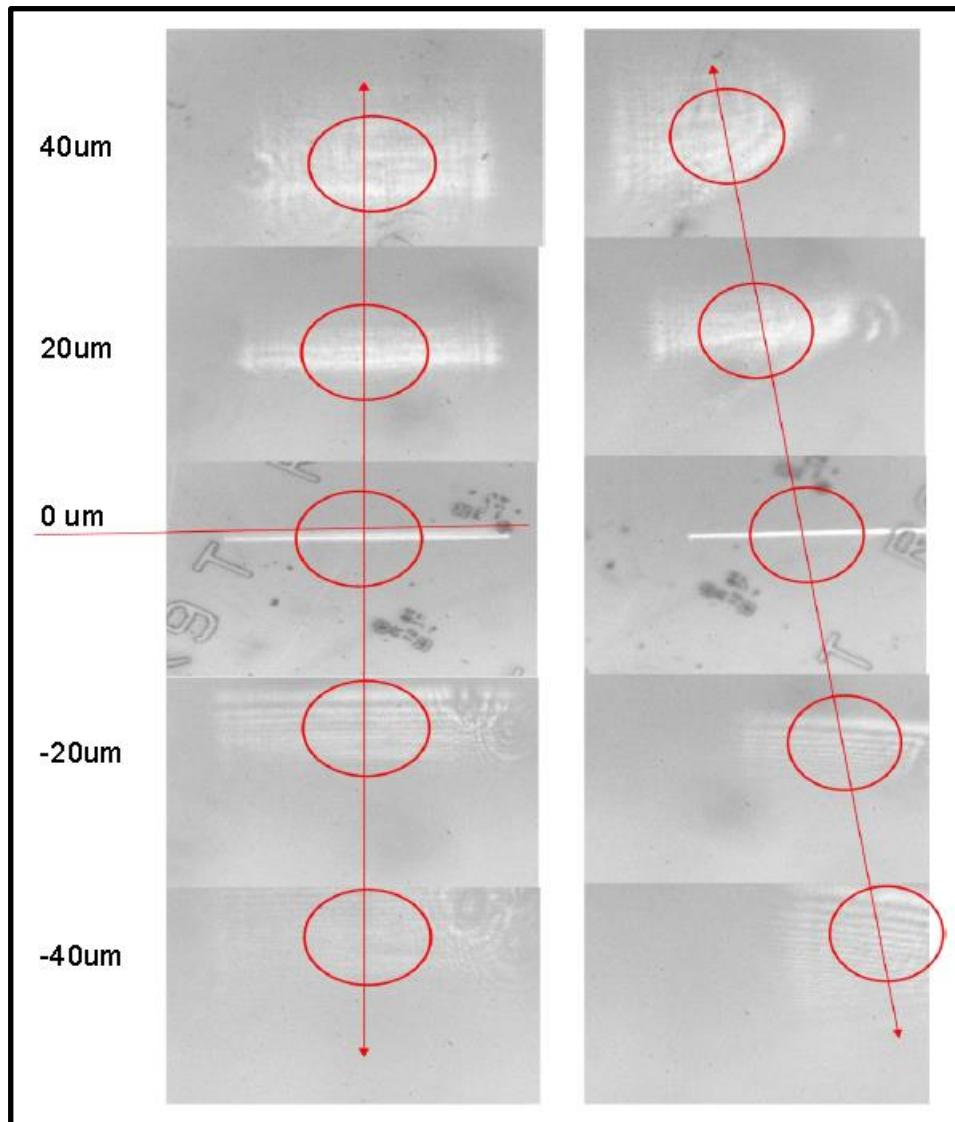

Figure 4-4 Illustrates effect of Y shift from the center of Obj Aperture evident @50X Objectives.
- If ATF6 laser line is entering objective aperture at center (with respect to Y direction) then result is going to be degeneration of the thin line into thicker one symmetrically to both sides as z is changed symmetrically around best focus. (see [Figure 4-4])
- If ATF6 laser line is entering objective aperture asymmetrically then it will become evident in laser line not only becoming thicker (up and down on [Figure 4-4]) but more importantly developing skew toward left and right.
moving laser line left and right (as per figure [Figure 4-4]) and then change Z and verify if shift is still present.